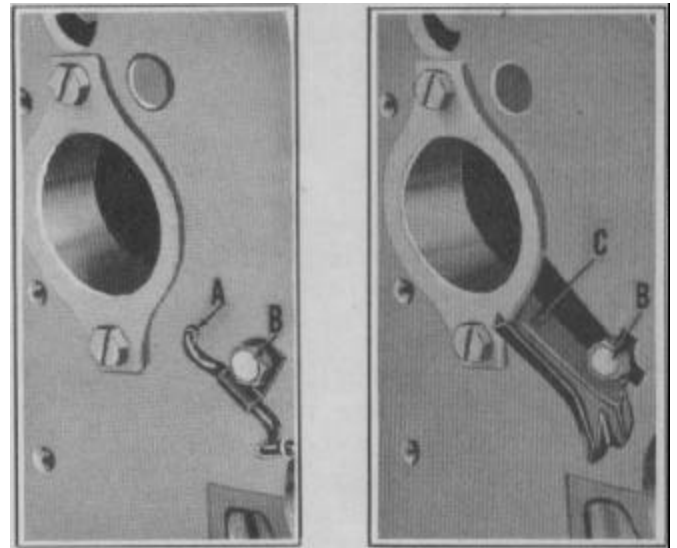

FIGURE 13
same screw previously used to hold the oil pipe in place, Figure 13. With the new trough installation, the hole drilled for the old type tube oiler is discontinued.
1. Remove the screw and clip (B) attaching the oiler tube to the cylinder block.
2. Using a  $21/64$ " drill enlarge the present  $3/16$ " oil hole (A).
5. Install trough (C) as illustrated in Figure 13, and secure with screw (B).